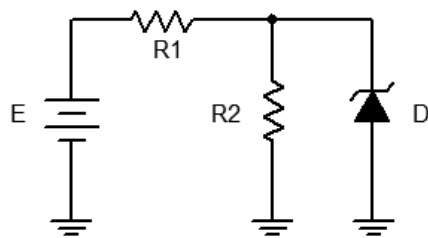

Figure 2.2
4. Consider the circuit of Figure 2.2 using  $R1 = 2.2 \text{ k}\Omega$  and  $R2 = 4.7 \text{ k}\Omega$ . In general, to analyze circuits like this, first assume that the zener is out of the circuit and then compute the voltage across  $R2$  using the voltage divider rule. If the resulting voltage is less than the zener potential then the zener is
5. Build the circuit of Figure 2.2 using  $R1 = 2.2 \text{ k}\Omega$  and  $R2 = 4.7 \text{ k}\Omega$ . Set E to 2 volts. Compute the theoretical diode voltage and current, and record them in the first row of Table 2.2. Then measure the diode current and voltage and record in Table 2.2. Finally, compute and record the deviations.
4. Assume that a diode with a much higher  $I_{ZT}$  rating (say, 100 mA) was used in this exercise. In general, what would the likely outcome be for the circuit of Figure 2.2?